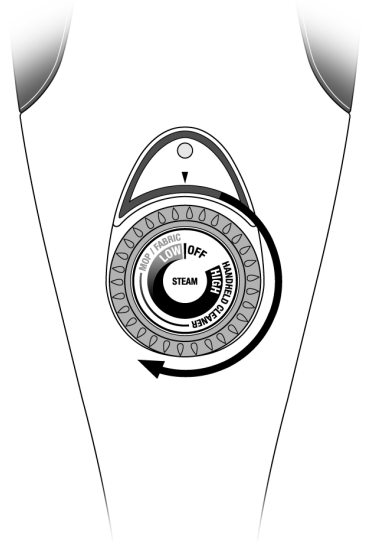

FIGURE 9
2. Turn Steam Control Dial clockwise from “OFF” position to desired steam setting (FIGURE 9). Power Indicator Light will immediately illuminate to indicate that unit is powered on and heating.